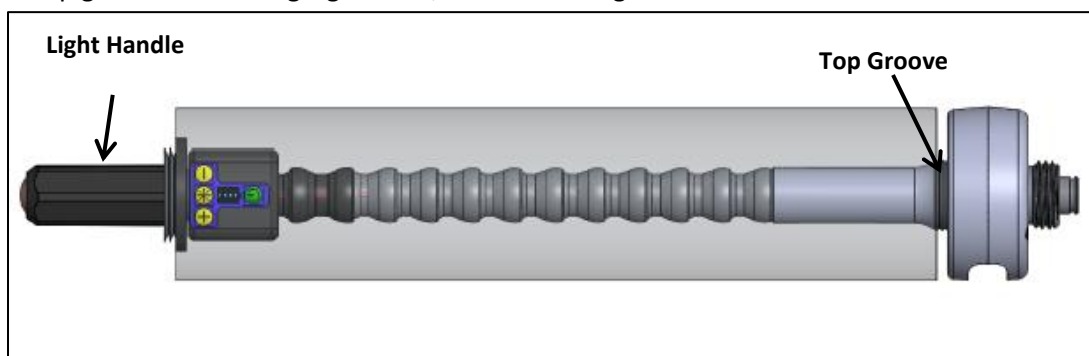

Figure 9.
- 4) Cover the entire shaft of the light by sliding the sleeve up from the base of the control panel to the top groove of the SurgiLight shaft, as shown in Figure 9.